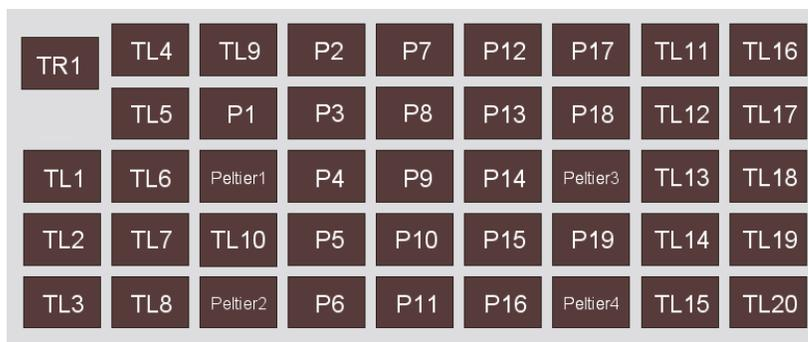

Figure 24 Deck positions on the Biomek™ i7 Automated Workstation
- Figure 24—Deck positions on the Biomek™ i7.